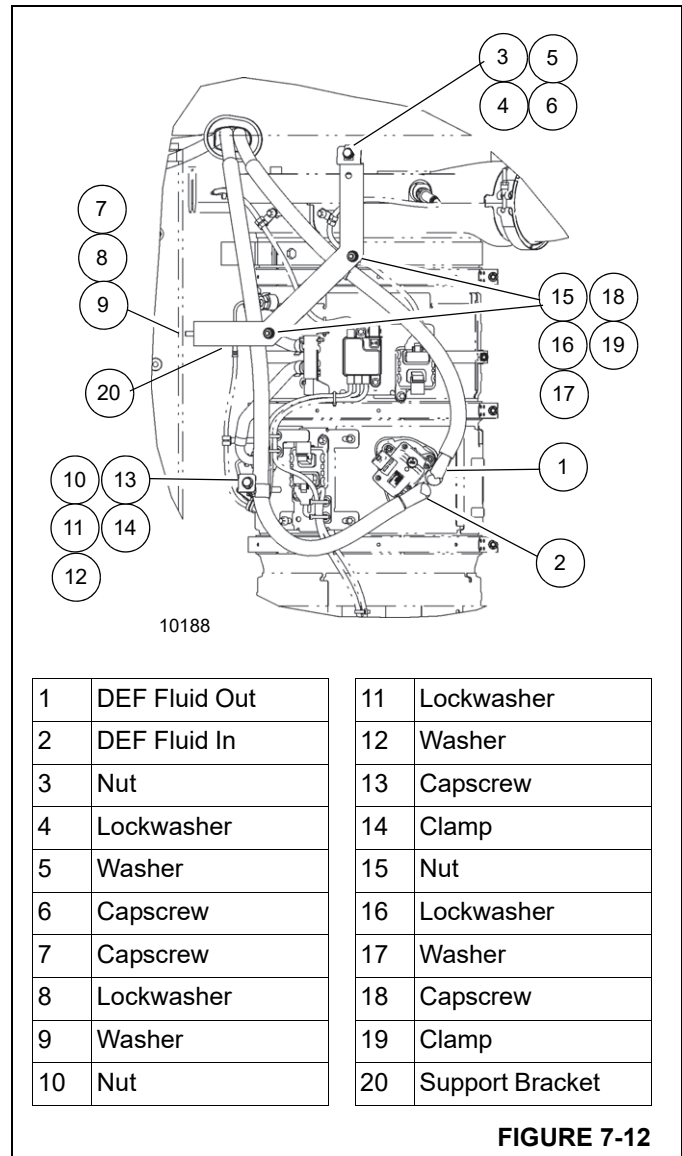

FIGURE 7-12
4. Disconnect the DEF hoses (1 and 2, Figure 7-12).
5. Remove nut (3), lockwasher (4), washer (5), and capscrew (6).
6. Remove capscrew (7), lockwasher (8), and washer (9).
7. Remove nut (10), lockwasher (11), washer (12), capscrew (13), and clamp (14) from hose (2).
8. Remove nuts (15), lockwashers (16), washers (17), capscrews (18), clamps (19), and support bracket (20).
1. Using an appropriate lifting device, lower the aftertreatment unit (1) on the aftertreatment weldment on the carrier.
2. Install tube (8) to aftertreatment unit (1) with gasket (7) and clamp (6).
3. Install coupler (9) on tube (8). Install tube (10) on coupler (9).
4. Install tailpipe (2) on aftertreatment unit (1) with clamp (4).
5. Connect the tube (10) and gasket (12) to engine exhaust with clamp (11).
6. Secure the aftertreatment unit (1) with mounting band clamps (5).
7. Secure tail pipe (2) with tail pipe clamps (3).
8. Install the support bracket (20, Figure 7-12) in place. Secure DEF fluid hoses (1 and 2) with nuts (15), lockwashers (16), washers (17), capscrews (18), clamps (19), and support bracket (20).
9. Secure one end of the mounting bracket (2) with nut (3), lockwasher (4), washer (5), and capscrew (6).
10. Secure the other end of the mounting bracket (2) with capscrew (7), lockwasher (8), and washer (9).
11. Secure hose (2) with clamp (14), capscrew (13), lockwasher (11), washer (12), and nut (10).